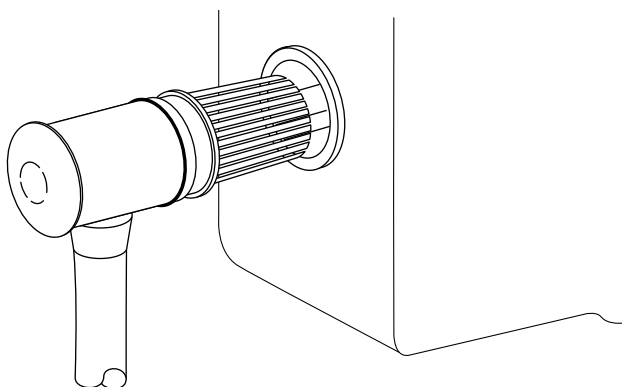

FIGURE 10
33. Insert the solids separator in the side of the housing (see Figure 10).